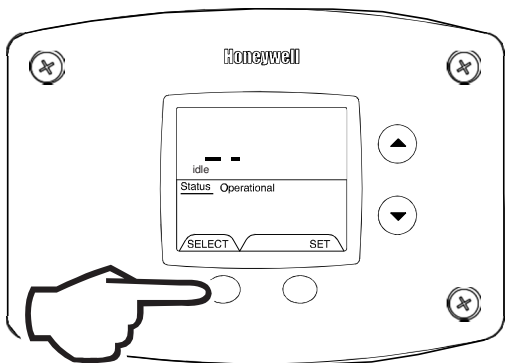

Fig. 65
3. Press the "Select" button to view the error code for 'code 10'. If there is a number displayed, note what the number is. The label next to the water heater display will identify the code number. If no number is displayed with only a '--' in the water heater display, then there has not been an error code for error code index 10 (Fig. 65).